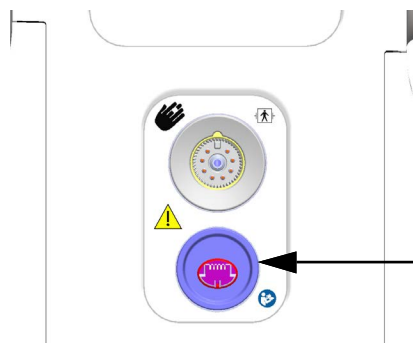

Figure 10-7 Pressure out to external monitor
- 2 Plug the compatible pressure-out (DPT) cable into the right panel of the monitor at the pressure out port. The pressure-out (DPT out) port is located below the ClearSight technology connection port. See ⑨ in Figure 10-7 on page 188.